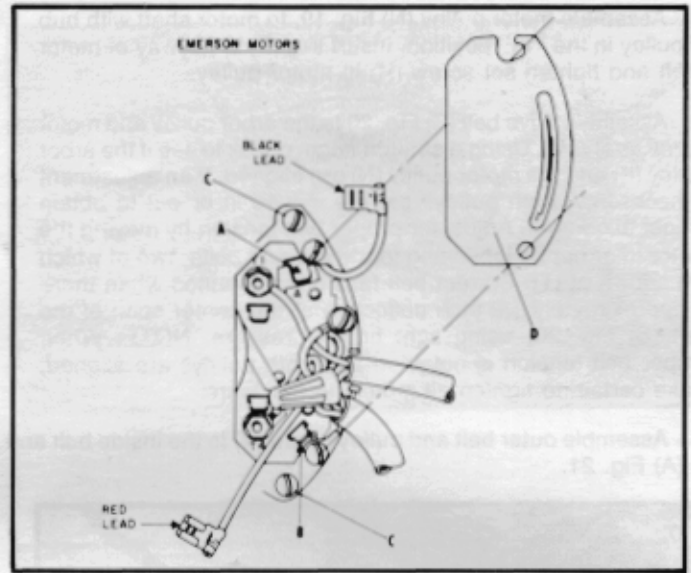

Fig. 24
3. If your motor is manufactured by Emerson Electric Co., refer to Fig. 24. Loosen the two screws (C) and rotate motor junction box cover (D) out of the way. To reverse the rotation of the motor, interchange the black and red leads on terminals (A) and (B) Fig. 24. These leads have spade type terminal clips that are slipped off the terminals (A) and (B) and interchanged.